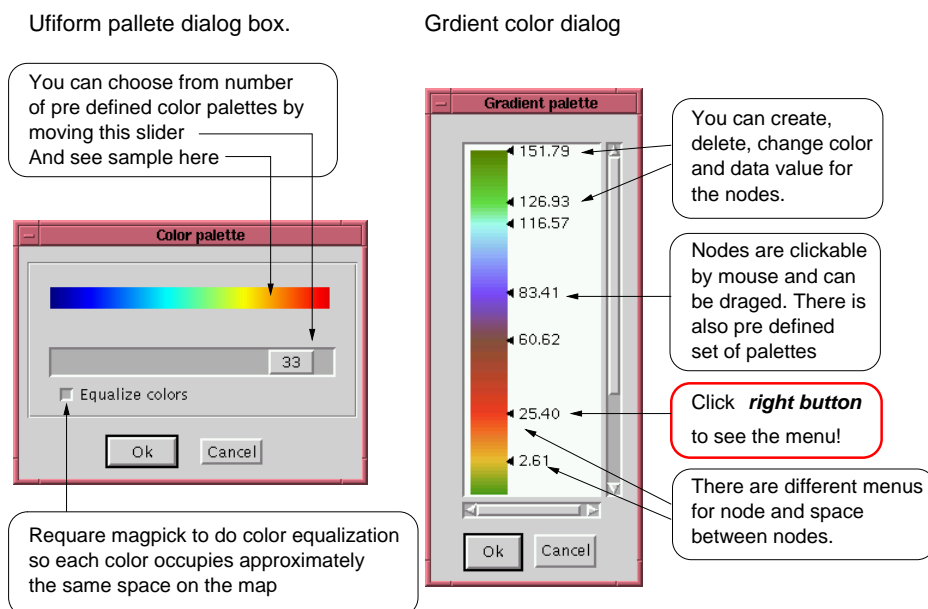

Figure 10: Uniform and gradient palette setup.
MagPick has a flexible tool to deal with a gradient palette (see figure 10), but uniform palette has the advantage: ability of color *equalization*. The goal of equalization is constructing of image where
To invoke these options, click on *Change palette...* button in the *Common parameters* dialog box. You will be prompted for the type of palette you are going to use. Then end up with either dialog (figure 10).
- Select **Uniform** (1) and then choose appropriate color scheme on the following dialog 10. Check **Equalize colors** button. Proceed as usual to the end of the **Settings...** dialog and see the map.
- Now call **Settings...** dialog again and go the same way to the **Palette type** dialog, however select choice (3) **Gradient from equalized**. This will approximate color-equalized palette with limited number of the gradient nodes. This can be set by **Number of color points** slider at the bottom of the dialog. Typically even a small number of nodes (10-20) provide good color approximation.
- With choice (3) selected **MagPick** creates gradient color palette after you press Ok button using current data limits (see 3). This new gradient color replaces existing one. Needless to say that it can be treated as any color gradient palette. However there is a difference: typically it should be displayed with **Equal-sized** mode. In this mode color nodes are separated uniformly along the palette regardless of data values. Opposite to that in the **scaled** mode nodes are distributed linearly in accordance with their data values.⁴ Now proceed to the map redrawing. Color map should not change much after this step.
- To export color scheme into CPT or CLR file, you need to get back to the gradient palette editor (see figure 10) and use context menu to export it. Please save it as well for latter use with the same map. The steps would be: call **Settings...** dialog again, then **Change palette...**, select **Palette type:** as **Gradient**. Then right click between nodes or on the color bar to bring context menu, select **Export...** and **SURFER CLR** or **GMT CPT** options.